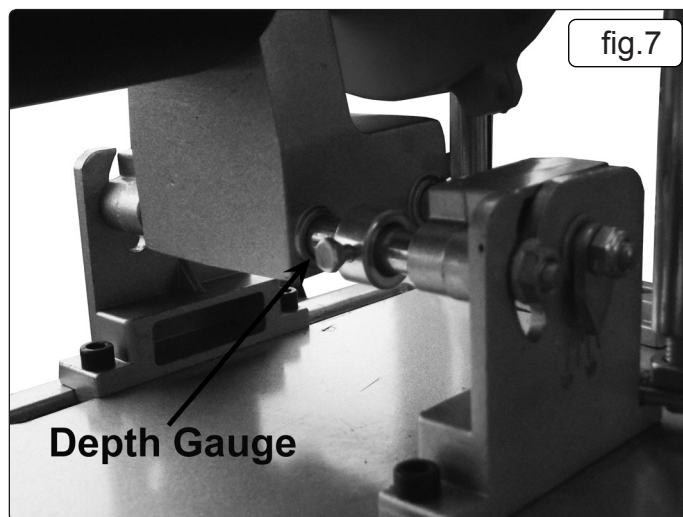

fig.7
- 4.8.2. To adjust the depth gauge, position the grinding stone into the tooth bottom, so that the tooth face can be completely sharpened, but the grinding stone does not touch the tooth bottom (there must be a space of some mm). Tighten the fastening screw of the depth gauge to fix the correct position. (See fig.7).